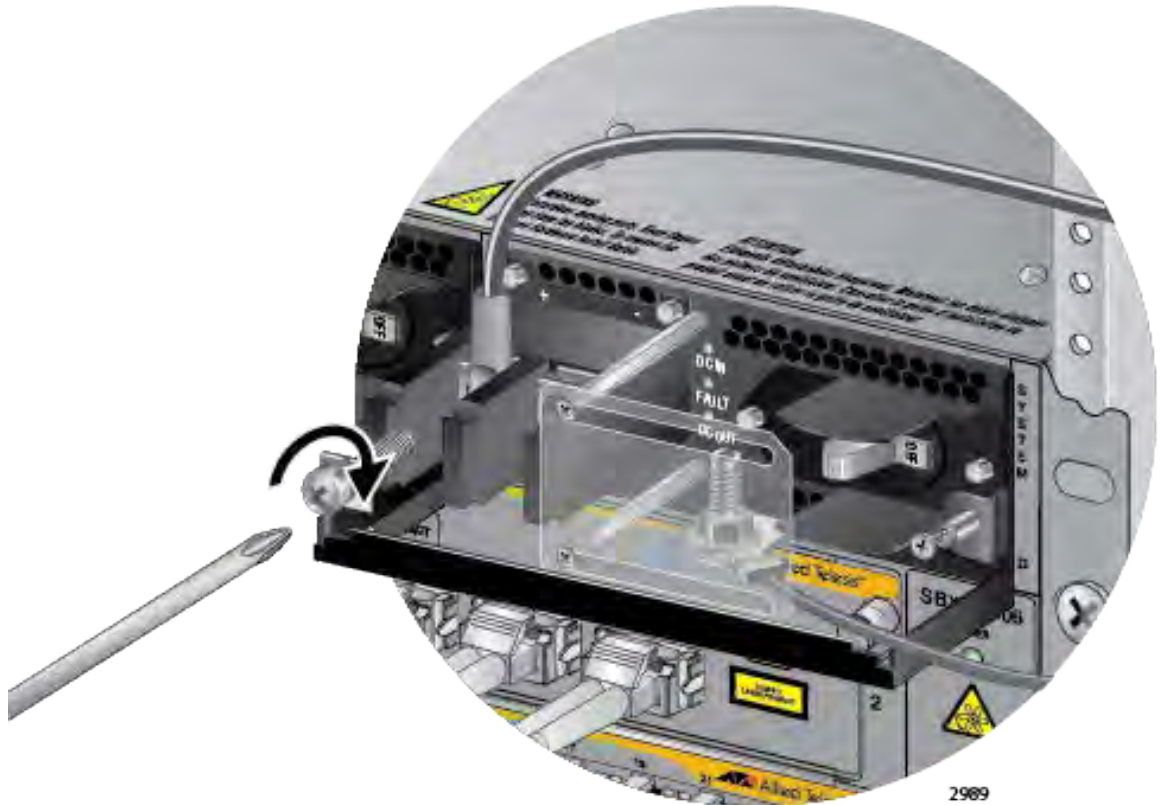

Figure 140. Connecting the Positive (+) Power Wire with a Straight Terminal
6. With a #3 Phillips-head screwdriver, connect the positive (+) power lead wire to the positive terminal on the power supply, with one of the terminal screws removed in the previous step. The positive terminal is on the left. You may attach the terminals with the wires either above or below the terminal block. Figure 140 on page 217 shows the positive wire above the terminal block.